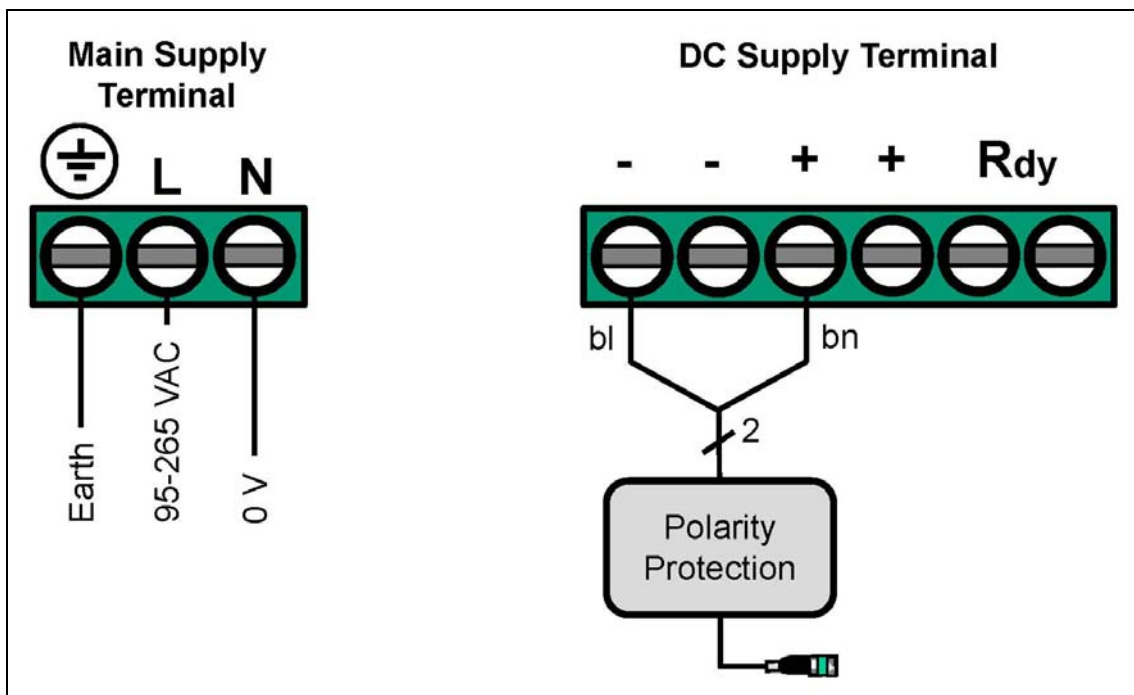

Fig. 5: Cable Terminals of the Power Supply Unit DRA240
*For correct installation and operation, follow the electrical wiring diagram and instructions in this manual (refer to Fig. 5).*